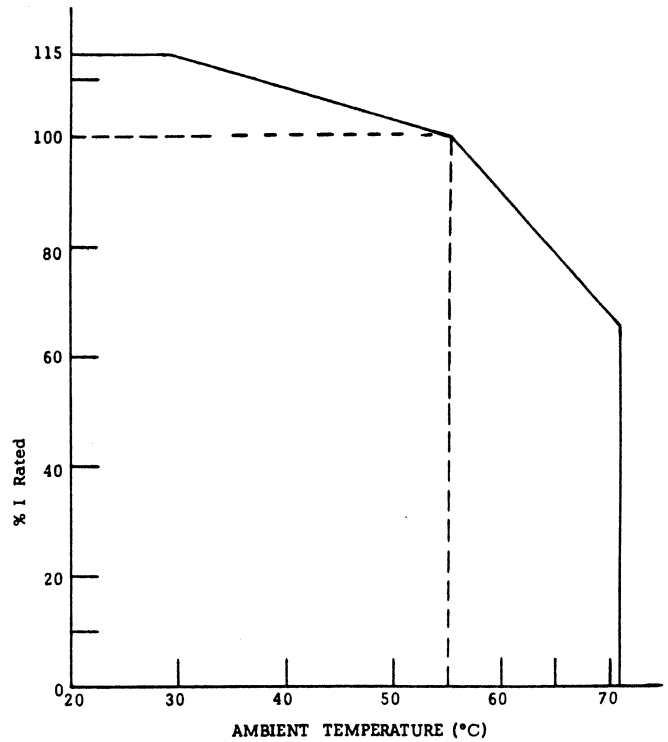

Figure 1-1. Current Derating Characteristics
- (1) Units modified for 220/230 Vac input are available. All of the following specifications are directly applicable with one exception: input current to modified units is 7 Aac maximum.
- (2) Units will function with some degeneration in transient response and ripple voltage (or current), between 50 and 60 Hz. To calculate specification degradation, multiply applicable listed specifications by  $(60/f)^2$ , where f = line frequency.
- (3) Typical at nominal input and full rated output.
- (4) See Figure 1-1 for current derating characteristics.
- (5) Whichever is greater. Regulation is for a combined full line swing and a no-load to full-load (or full-load to no-load) change.
Ambient-Temperature Range	0 - 71 °C See Figure 1-1 for Derating Characteristics